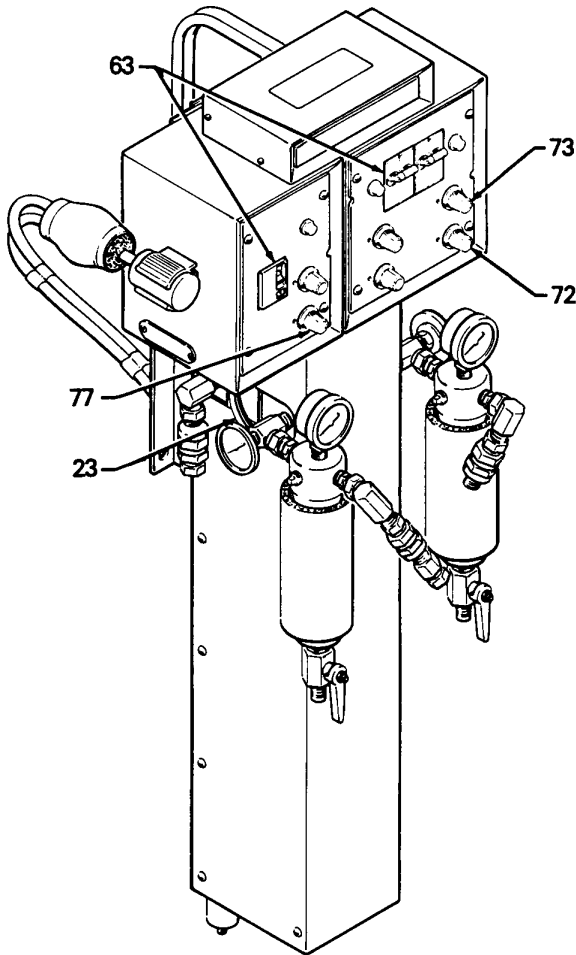

Figure 15
1. Open the main air supply valve (1).
2. Open the main air supply valve and the air valves (8) to the feed pumps (3). See the Typical Installation on page 5.
3. Adjust the air regulator (212) to the proportioning pump motor to 50 PSI (3 bar).
4. Slowly open the air valve (214) to the proportioning pump.
5. Start the heaters. See Figure 15.